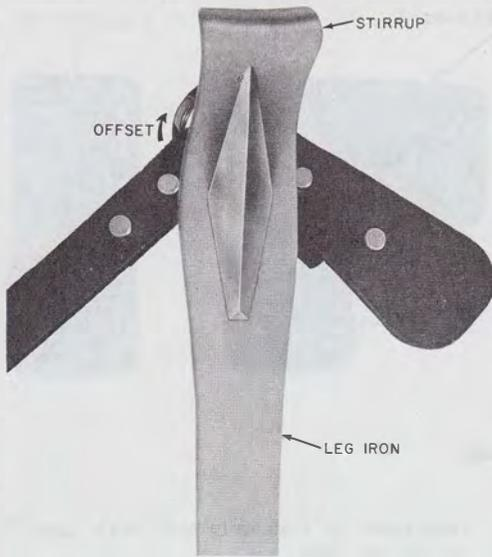

Fig. 2—Stirrups Offset "Right"
2.05 F climbers have offset stirrups, therefore, they are made for the left or right foot and are marked "L" or "R" just below the ring loop at the end of the stirrup. Some older climbers may not have been marked. Climbers can be identified as left or right by holding the climber with the gaff toward you and pointing up and noting the direction the stirrup is offset. If the offset is to the right as shown in Fig. 2, it is a